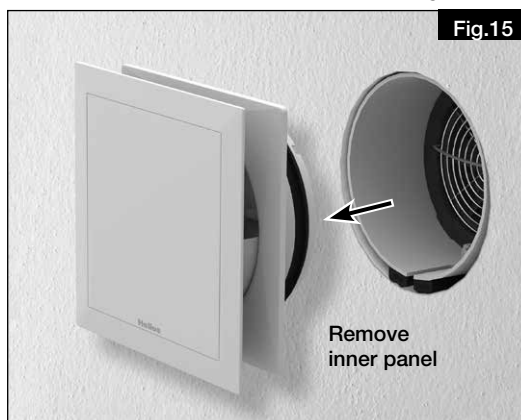

Fig.15
1. Remove inner panel (see Fig.15).